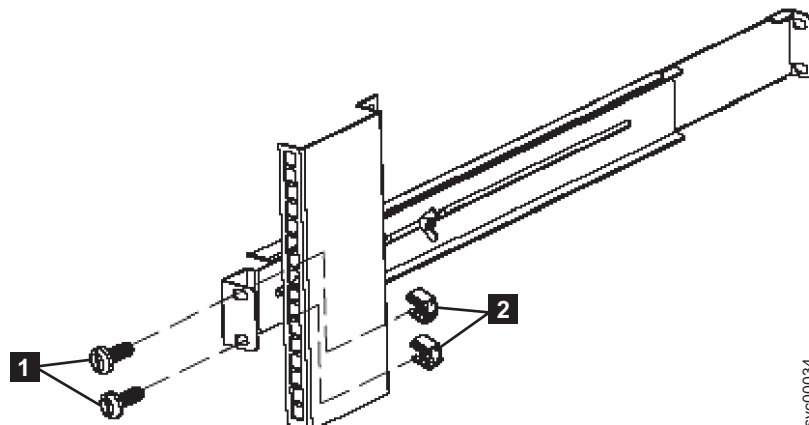

Figure 194. Removing the rear rail on the 2145 UPS-1U
5. Remove the two M6 × 10 screws from the rear side of the rail (**1** in Figure 194) and the two clip nuts (**2**).